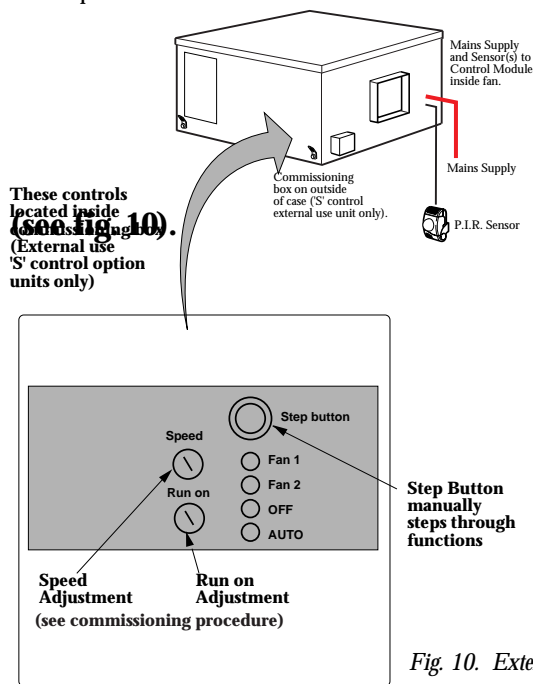

Fig. 10. Exterior commissioning control box panel.
1. The commissioning controls are located in a small exterior case mounted control box. (See fig.10). Remove the box cover. The controls available on this panel include:
4. Press the step sequencing button several times until **only** the 'FAN 1' light is illuminated and the 'AUTO' light is off. (See detail of control panel Fig. 10).
6. **Set the Run on timer control.** (Adjustable 5-60 min). (See detail of control panel Fig. 10).